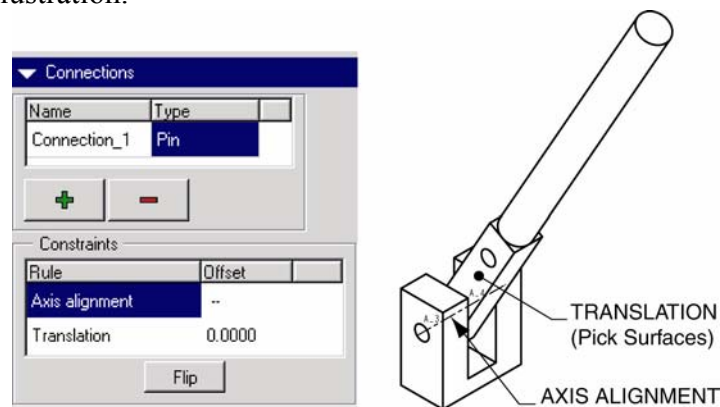

Figure 12-99: Handle Placement
Step 23: Select the **PIN** joint type under the **Connections** option (see Figure 12-99).
Step 24: Align the hole axes of the handle and hinge parts as shown in Figure 12-99.
Step 26: Use the Move tab to rotate the handle to the approximate location shown in Figure 12-99.